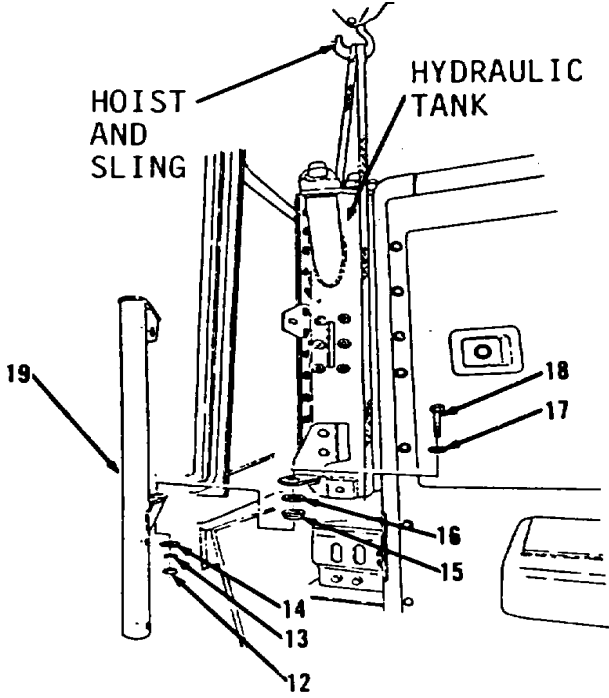

Figure 10-151.
- 4. Remove nut (12), washers (13 and 14), mounting (15), washers (16 and 17), bolt (18) and support (19, Figure 10-151).